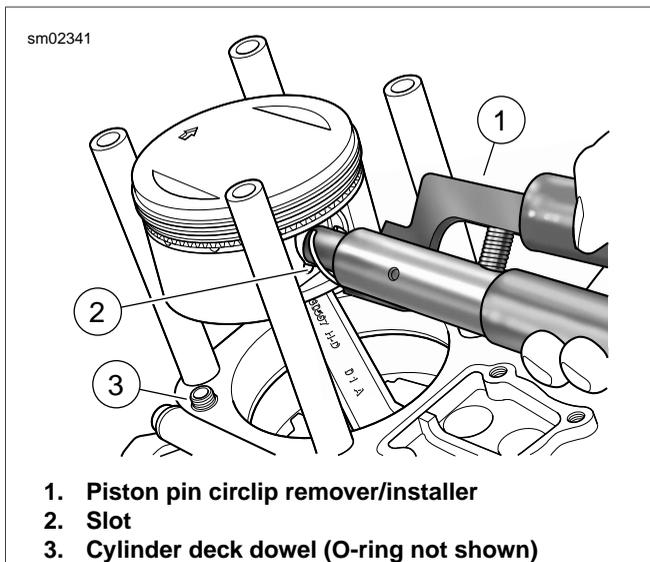

Figure 3-28. Pin Circlip Remover/Installer (Part No. HD-42317)
- d. See Figure 3-28. Insert the tool (1) into the piston pin bore until claw is aligned with slot (2) in piston.
1. See Figure 3-28. Apply a very thin film of clean H-D 20W50 engine oil to **new** o-rings for both lower cylinder deck dowels. Install and verify that o-ring is properly seated in groove.